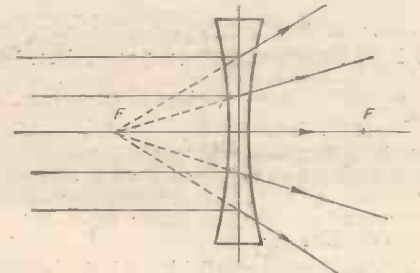

Fig. 10.—Diverging lens—virtual focus.
Take the rays off the model and turn them over. They are now bent outwards and represent the action of a diverging lens. Fig. 10 shows how a parallel beam is made to diverge as from a virtual focal point (F). The power (and with it the focal length) of a diverging lens is obviously negative.